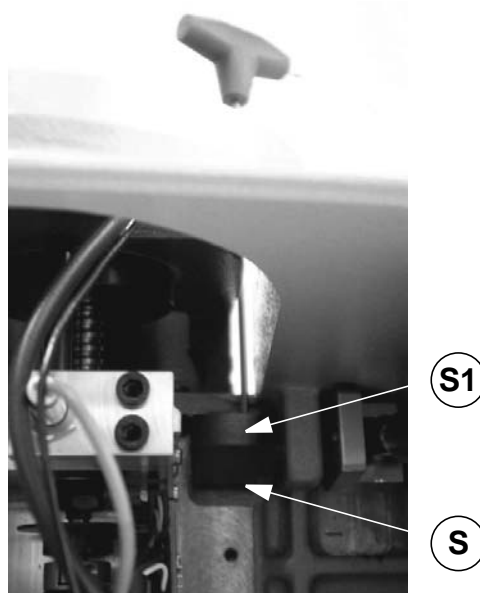

Fig. 52
- 4) remove the belt cover (ch. 7.2, page 70) and lower the protective shield (V).
- 5) use the 2,5 mm T wrench to loosen the grub screw (S1 - fig. 52).
- 6) hold the wrench in the grub screw (S1), seat and turn the cam (S) until the microswitches click.